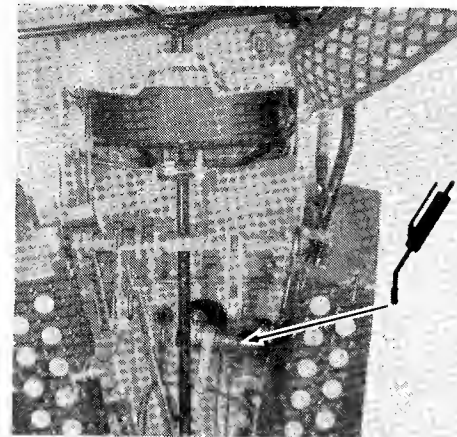

Figure 5. Grease Fitting
- c. One fitting on steering gear under tractor (figure 5);